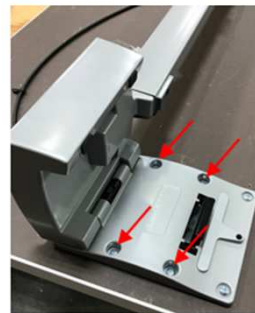

Fig 1B
3. Place the flip mechanism assembly on the work surface as shown in Diagram-A, aligning the front outside screw holes in the flip assembly with the points marked in step 2. Mark the positions for the remaining mounting screw locations. Activate the tilt release handle to access holes in center of mount plate. There are a total of 16 holes (see Fig1A & Fig1B) Drill pilot holes 1/8"Ø x 1/2" deep in screw locations marked.
4. Use the (16) #12x1" panhead screws provided with the flip mechanism to secure the mechanism to the top. ****Note that the cables should be routed between the stretcher rail and the bottom side of the work surface**.**
5. Locate the tilt release handle per Diagram-A. Handle is centered side-to-side. Mark and drill pilot holes. Use (4) #12x1" panhead screws to attach.
6. Use (6) cable retainer clips and (6) #8x5/8" panhead screws to secure cables to bottom of work surface.
7. Align the mounting plate of leg with holes in the flip mechanism. Use (4) 1/4-20x 1/2" machine screws to attach each leg.